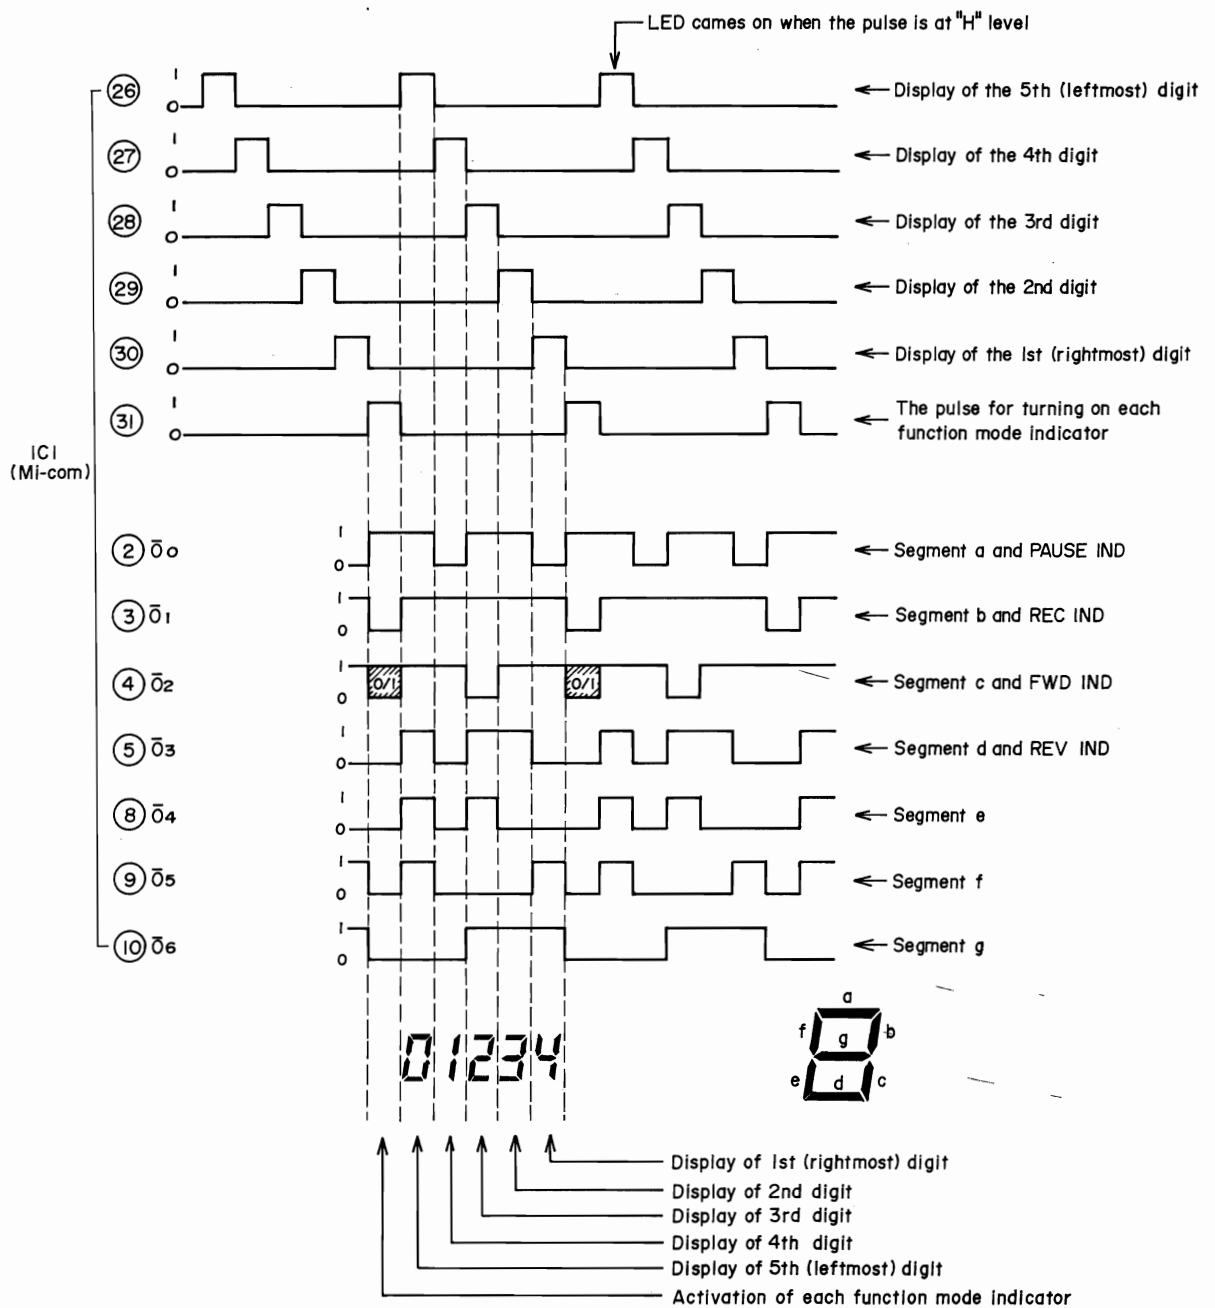

Fig. 6-37
Here we will explain about the situation in Fig. 6-37. (FWD PLAY/PAUSE) as one example. Hereinafter FWD PLAY is just written as PLAY. Under PLAY/PAUSE, PAUSE of the function mode indicator is always lit and PLAY is flashing. Firstly, refer to the vertical row of the function mode indicators of O0 - O3 in Fig. 6-37. You will note that PAUSE IND has "H" level, PLAY IND has "L/H" flashing and others have "L" level.
Fig. 6-37 shows the timing chart. By means of the waveforms of IC (26) - (30) coming from the microcomputer, the lighting position of LED of each digit is moved in sequence. Take the example of the first digit.
tion of $\bar{O}_0 - \bar{O}_6$ of the first digit indication in Fig. 23, b, c, f, and g segments are lit and a, d and e segments are dark. In this condition, the indicator indicates 4. Similarly if we look at the 2nd - 5th digits, 01234 is indicated in the condition of Fig. 6-37.